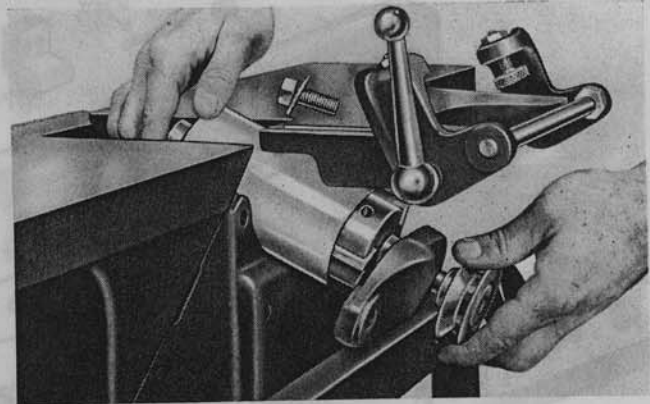

Fig. 10. Entire cutterhead can be removed so that blades can be sharpened in the cutterhead.
2. Wrap heavy paper around cutter head to prevent damaging blades — see Figure 10.
4. Slide complete cutter head through right side of jointer—see Figure 10. Remove pulley and bearing hanger before sharpening the blades.